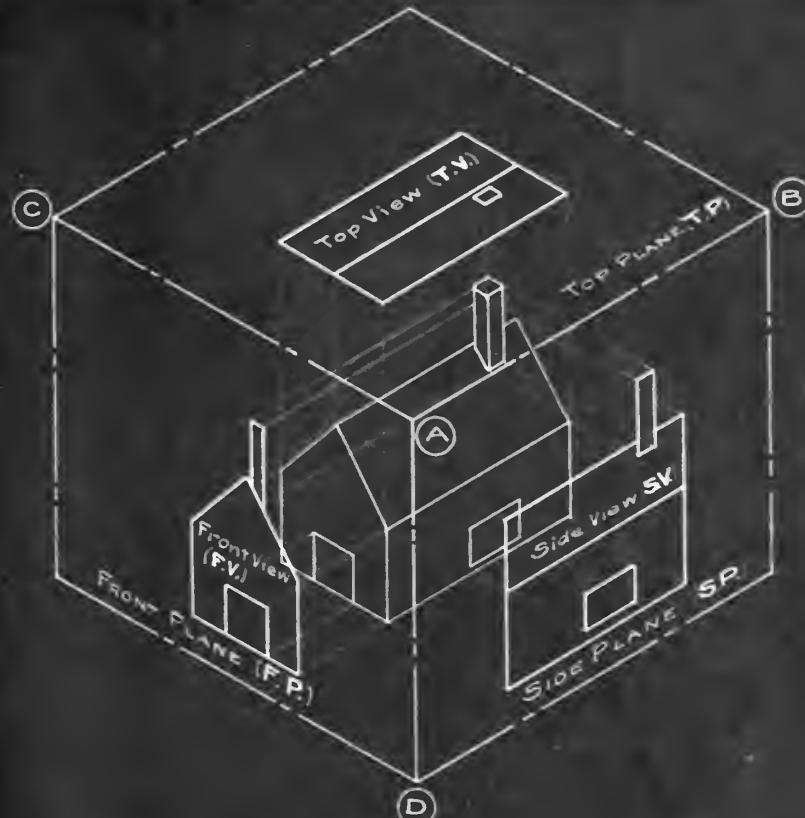

Fig. 1
1. Consider object surrounded by THREE PLANES, F.P., S.P., and T.P. as shown (Fig.1).
3. The intersection of these rays and their respective planes will trace Three Views, F.V., S.V., T.V. as shown (Fig.1).